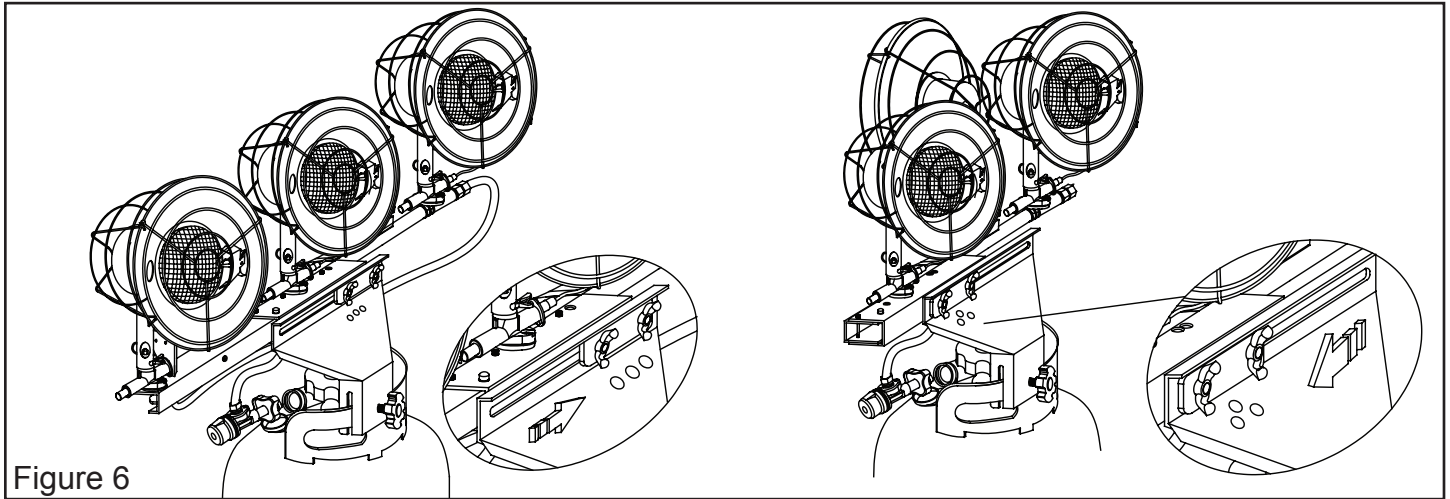

Figure 6
4. See Figure 6 on page 7 for determining burner position options.
- To have all 3 burners face front, the plane washer should be to the right side of tank collar bracket. (See Figure 6)
- To have far left burner face back, the plane washer should be to the left side of tank collar bracket. (See Figure 6)